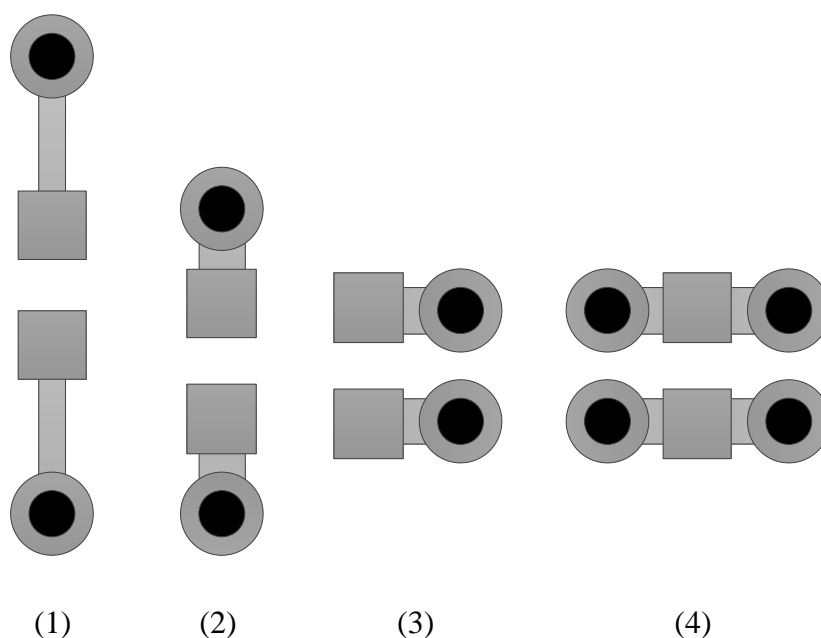

Figure 4-1 Decoupling Capacitor Placement Diagram
For large packages including 1210, D-type and 7343-type, due to their large size, they cannot be placed close to the FPGA pins. However, the low-frequency decoupling provided by the large-capacity capacitors is not sensitive to their location. They can be located farther away but still as close to the FPGA as possible. It is recommended to use a large area of copper foil for connections and increase the number of vias to reduce loop inductance. Capacitors in 0805, 0603, and smaller packages are used for mid-to-high frequency decoupling, which is sensitive to their location. It is recommended to place them as close as possible to the FPGA power pins. Wide and short leads can be connected to power supply and ground vias in any way of the figures (2), (3), or (4) as shown in Figure 4-1. Avoid using long or thin leads as shown in figure (1), as this would increase parasitic inductance and impair decoupling capability.